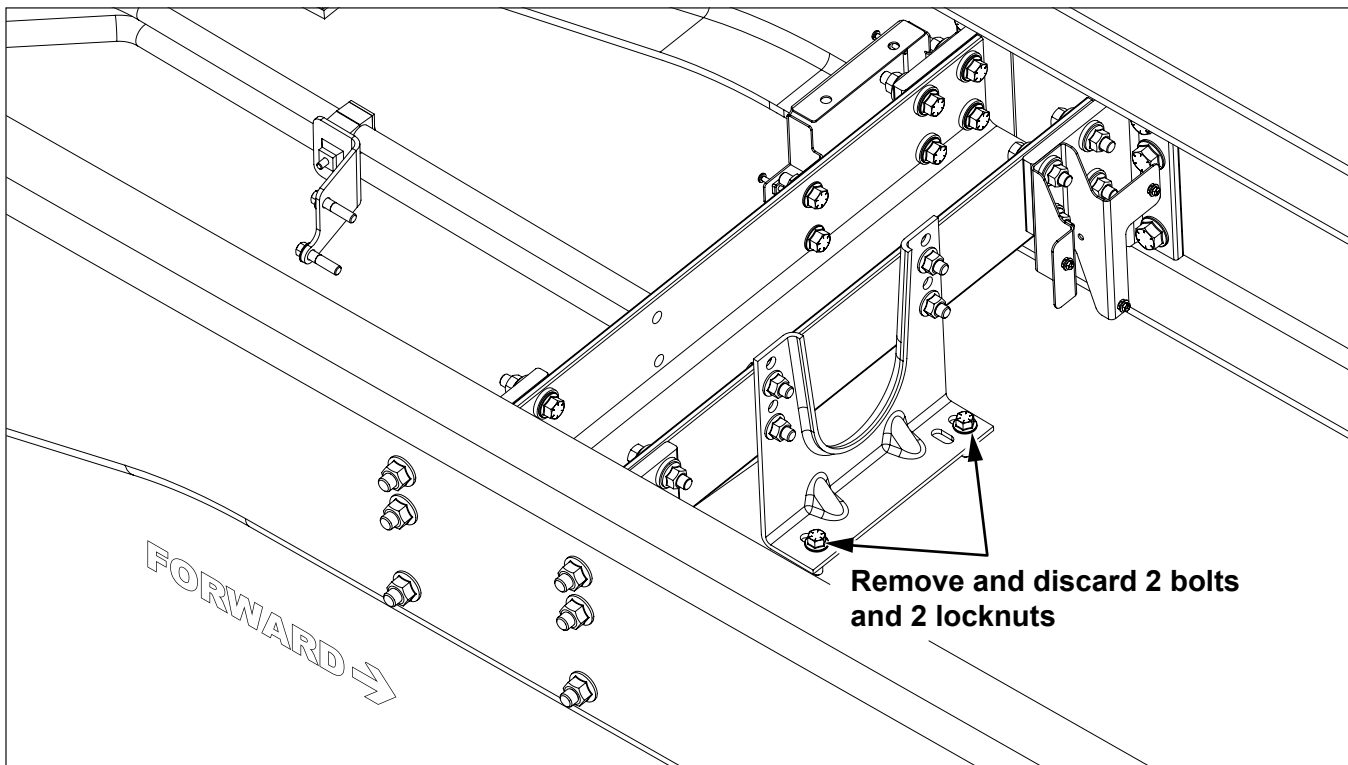

Figure 12
8. Support the driveshaft (not pictured) with a suitable jack stand, remove and discard the 2 bolts and 2 nuts securing the center bearing to the support bracket. Lower the driveshaft (see Figure 12).